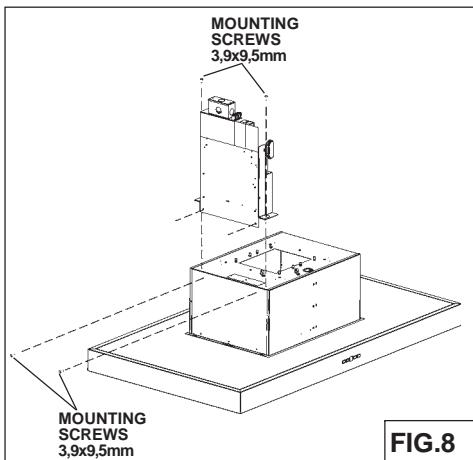

FIG.8
5. Fix the electrical plate with 4 screws (3.9x9.5mm) to the hood, the screws are located in the Hardware Package (Fig. 8)